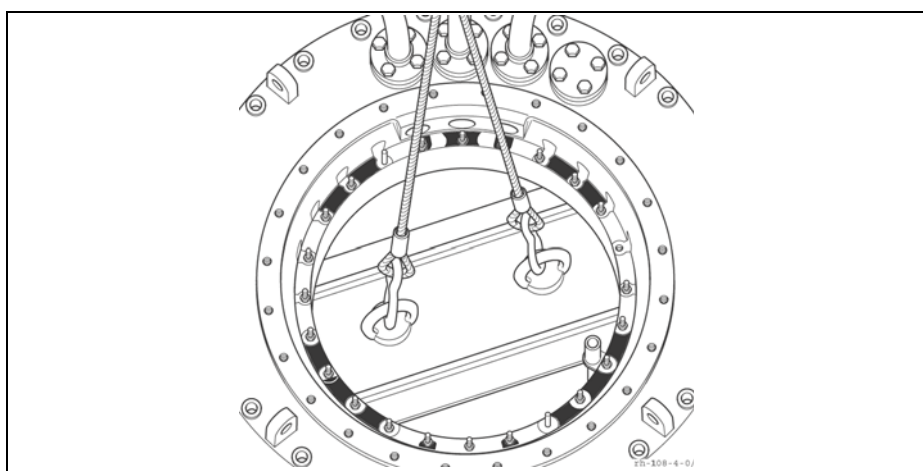

Figure 24 Raising on-load tap-changer
5. Lift the on-load tap-changer slightly by means of the lifting traverse (**Figure 24** and appendix, drawing 890180). Make sure that all supporting flange stud bolts go easily through the fixing holes of the on-load tap-changer head.